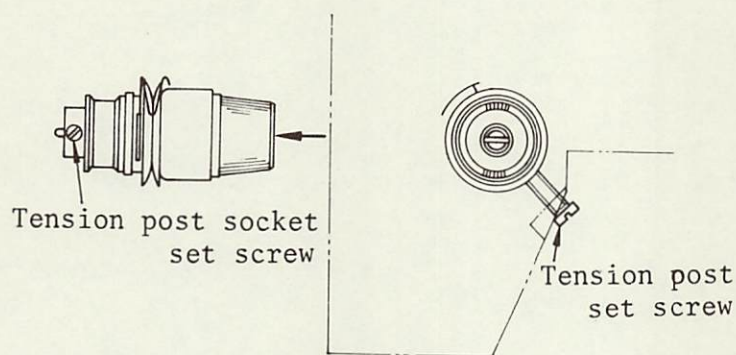

Fig.17
- \* When the moving range of the thread take-up spring is too big, the counter knife will pull in the needle thread immediately after the thread is trimmed. Consequently, the length of thread from the needle to the thread end becomes insufficient, causing the thread to slip out. (Fig.17)